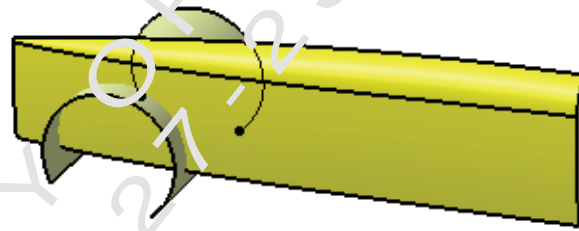

Figure 1–56
2. Rename the completed extrude as [Wheel Extrude]. The model displays as shown in Figure 1–56.